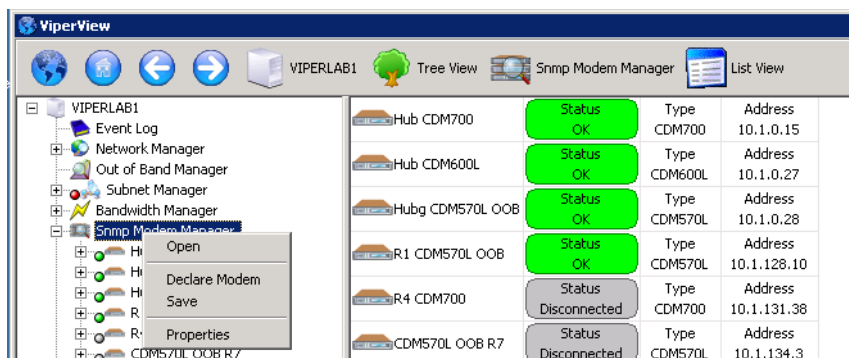

Figure 6-2 Declaring a CDM-600L
The SNMP Modem Manager is the controlling service for all out-of-band modems. Right clicking on the manager icon opens a list which allows you to open the manager, declare modems, Save the entries and view the properties page. The properties page is shown below in figure 6-2.
1. From ViperView, right-click on the SNMP Manager to display the drop-down menu shown in figure 6-2.